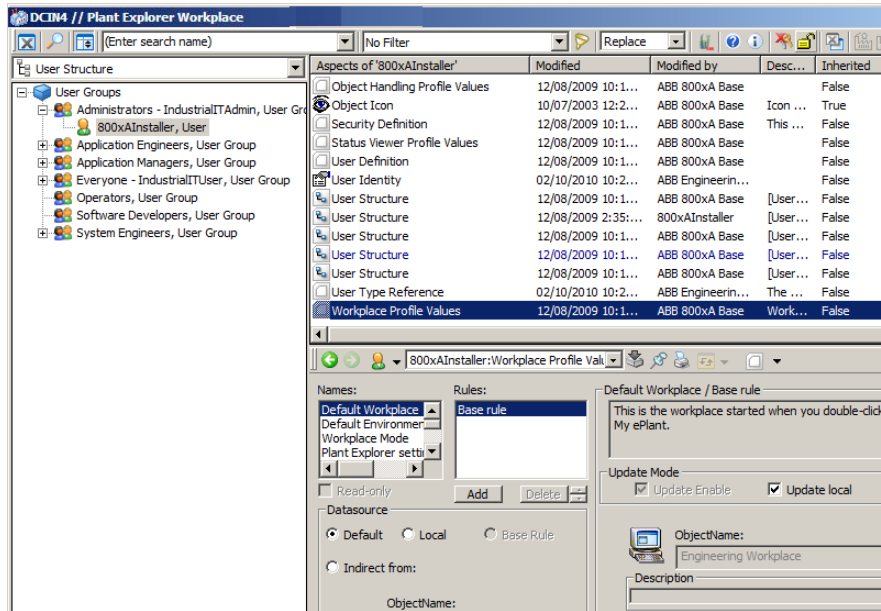

Figure 40. Default Workplace
- d. For the **Default Workplace** mark the **Local** radio button and a default workplace setting in the **ObjectName** field, refer to Figure 40.